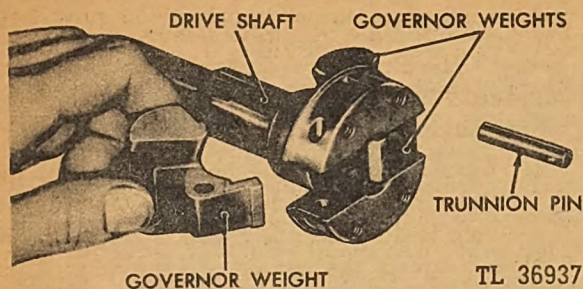

Fig. 285. Assembling Governor Weights
(6) The governor weights are assembled in the drive shaft hub on trunnion pins. Care in the assembly or disassembly of the weights should be taken to prevent mutilation of the pinholes by the pin or punch, which cause the weight to bind, destroying governor action. (See Figure 285.)